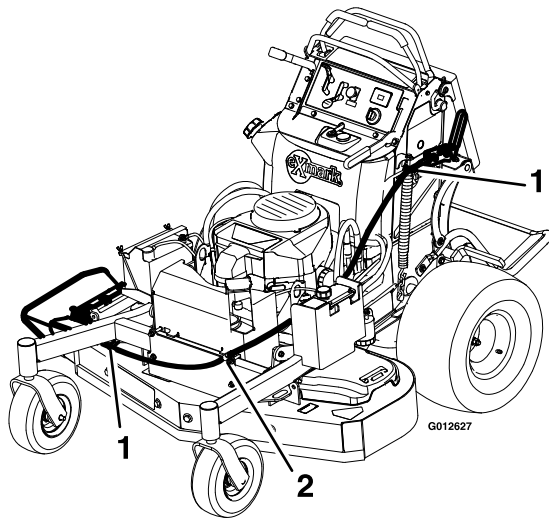

Figure 14
- I. Use velcro straps to secure the cable as shown in Figure 14.